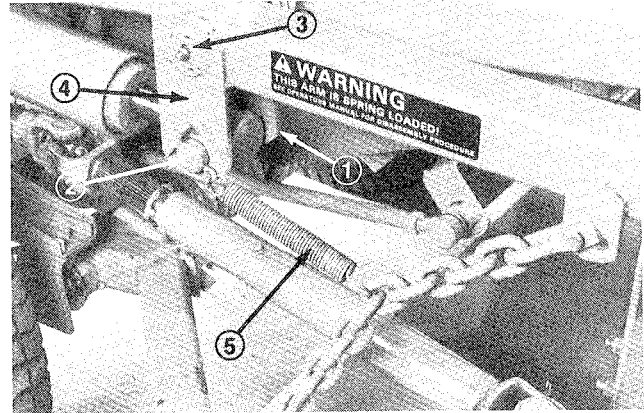

Figure 63
5. Remove spring pin from cylinder pin, and pull cylinder pin out of moveable end of the cylinder (Fig. 63).
6. Remove cotter pin and flatwashers from lift arm pivot shaft (Fig. 63).